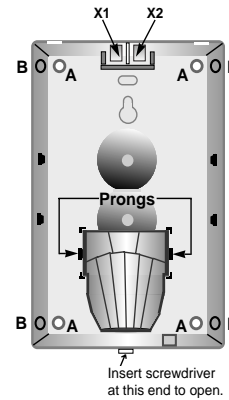

Figure 2. Back Case with Mirror
2. Spread either or both plastic prongs holding the wide angle mirror, and remove the mirror. See Fig. 2 for location of prongs.
2. Referring to Figure 2, break out the desired knockout mounting holes. Use knockout holes "A" for normal surface mounting. Use knockout holes "B" for corner mounting. Break out the desired wire entry hole marked X1 or X2 at the top of the detector base.